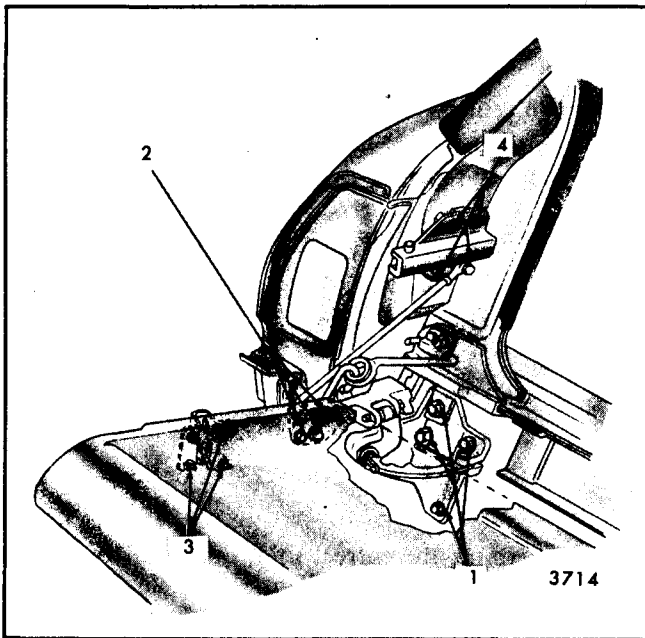

Fig. 9-56-Dual Acting Tail Gate Left Upper and Lower Hinge, Lock, and Torque Rod Attachments
1. Lower Left Hinge Assembly at Body Attachment - Adjustable "up" or "down" and "laterally" ("1", Figure 9-56).
2. Lower Left Hinge Assembly - At gate attachment - adjustable "forward" or "rearward" ("2", Figure 9-56).
3. Upper Left Hinge and Lock Assembly - Adjustable "up", "down", "forward" and "rearward" ("3", Figure 9-56).
4. Upper Left Hinge and Striker Assembly - Adjustable "in" or "out" from body pillar ("4", Figure 9-56).